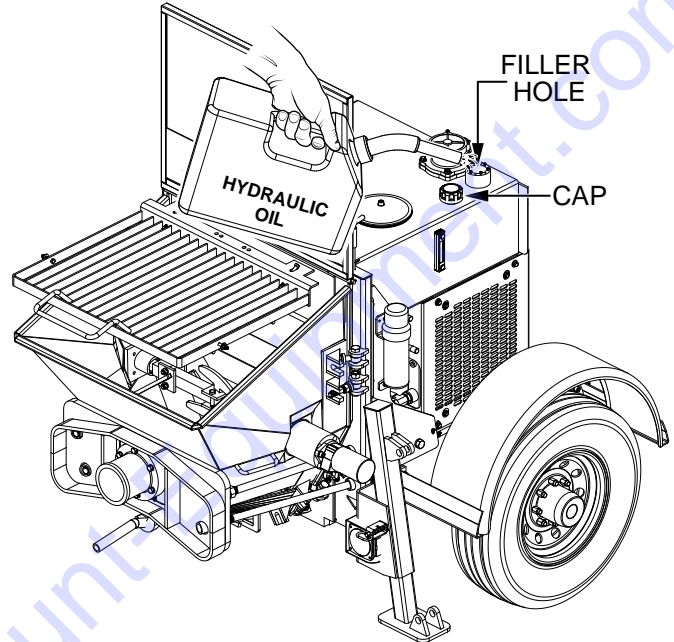

Figure 15. Adding Hydraulic Oil (Filler Hole)
2. If the hydraulic oil level is low, remove the hydraulic oil tank cap (Figure 15) just above the hydraulic oil sight glass and add the correct amount of hydraulic oil to bring the hydraulic oil to a normal, safe operating level. Use Shell Tellus® 46 hydraulic oil.